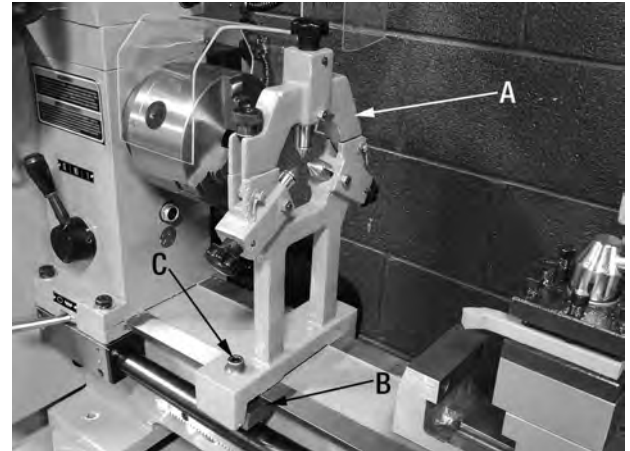
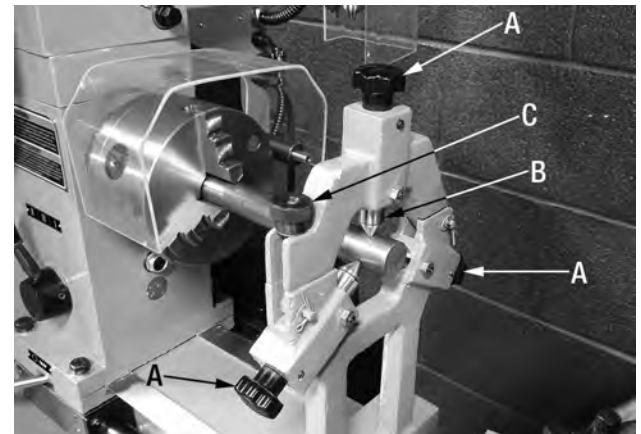

FIGURE 18
FIGURE 19
The steady rest (A) Fig.18 is used the same way as the follow rest. It is also used to support workpiece when it can't be supported by the fixed centre in the tailstock.
1. Position the steady rest (A) Fig.18 on the lathe bed in front or behind the carriage.
2. Place the clamp shoe (B) under the steady rest and secure it using cap screw (C).
3. Loosen the adjustment knobs (A) Fig.19 for each brass finger (B) and adjust the brass fingers to allow plenty of clearance for the workpiece.
4. Loosen the knurled knob (C), and pivot the head out of the way.
6. Oil each brass finger, then pivot the head back into place and secure with the knurled knob (C).